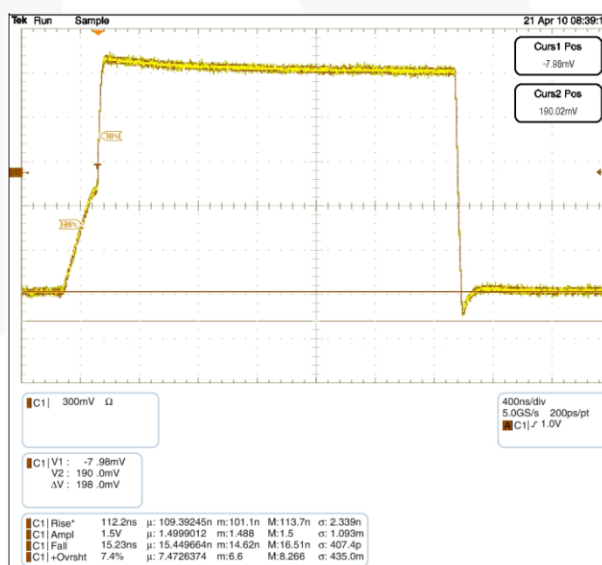

Figure 4. Waveform C: 600pF, Total R_{PU}: 2.2K Ω
B port, the Npassgates act as a low resistive short between the ports until either of the port's $V_{CC}/2$ thresholds are reached. After the RC time constant has reached the $V_{CC}/2$ threshold of either port, the port's edge detector triggers both dynamic drivers to drive their respective ports in the LOW-to-HIGH (LH) direction, accelerating the rising edge. The resulting rise time resembles the scope shot in Figure 4. Effectively, two distinct slew rates appear in rise time. The first slew rate (slower) is the RC time constant of the bus. The second slew rate (much faster) is the dynamic driver accelerating the edge.
The FXMA2104 dynamic drivers have enough current-sourcing capability to drive a 400pF capacitive bus. This is beneficial when an I²C buffer / repeater is required. The I²C specification stipulates a maximum bus capacitance of 400pF. If an I²C segment exceeds 400pF, an I²C buffer / repeater is required to split the segment into two segments, each of which is less than 400pF. Figure 4 is a scope shot of an FXMA2104 driving a lumped load of 600pF. Notice the (30% - 70%) rise time is only 112ns (total R_{PU} = 2.2K ·). This is well below the maximum edge rate of 300ns. Not only does the FXMA2104 drive 400pF; it also provides excellent headroom below the I²C specification maximum edge rate of 300ns.